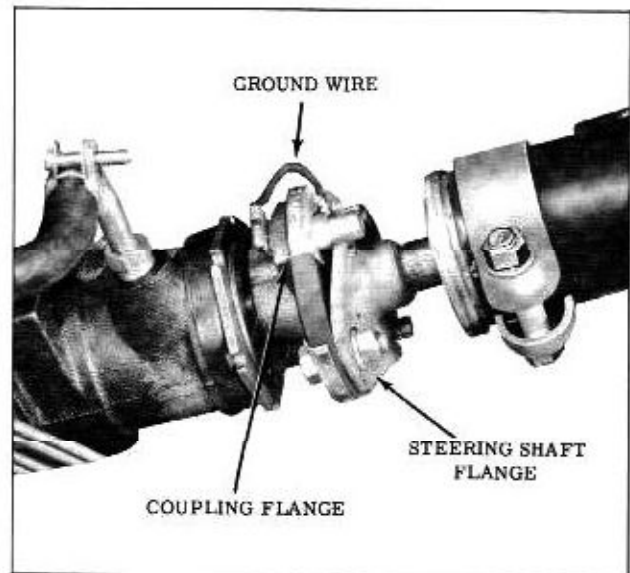

Fig. 4-37 Coupling Assembly
1. Remove the two steering flange attaching nuts and lock washers. Remove ground wire from flange attaching bolt. (Fig. 4-37)